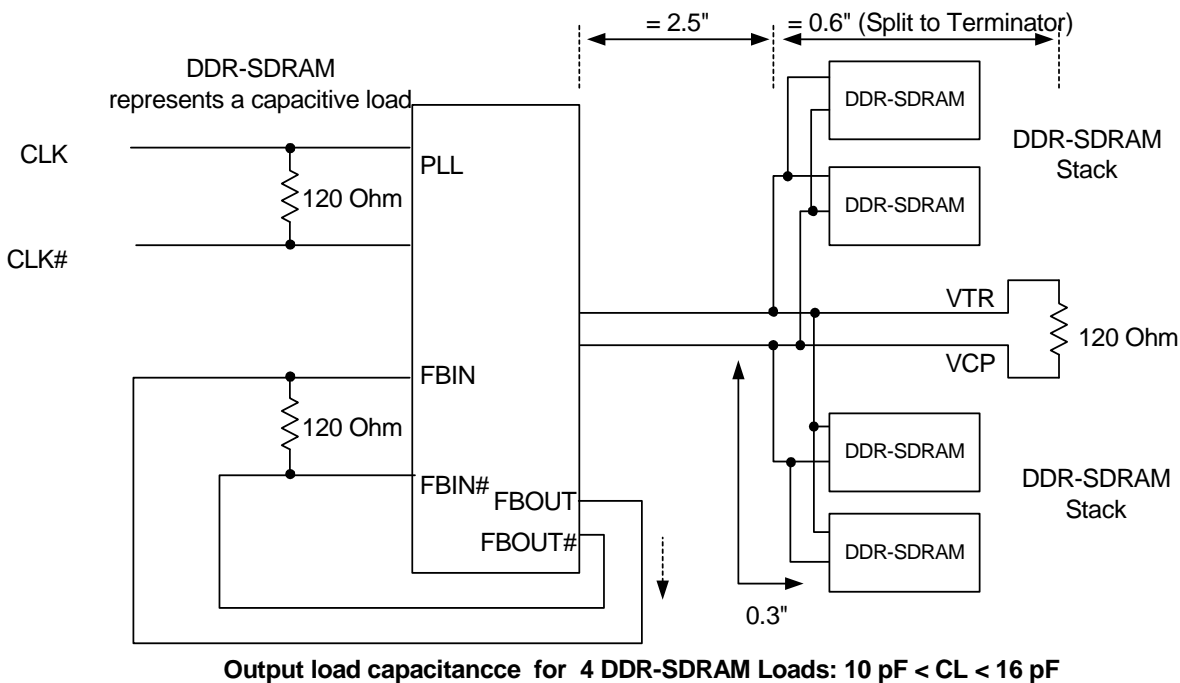

Figure 5. Clock Structure # 1
14. All differential input and output terminals are terminated with 120Ω/16 pF, as shown in Figure 5.